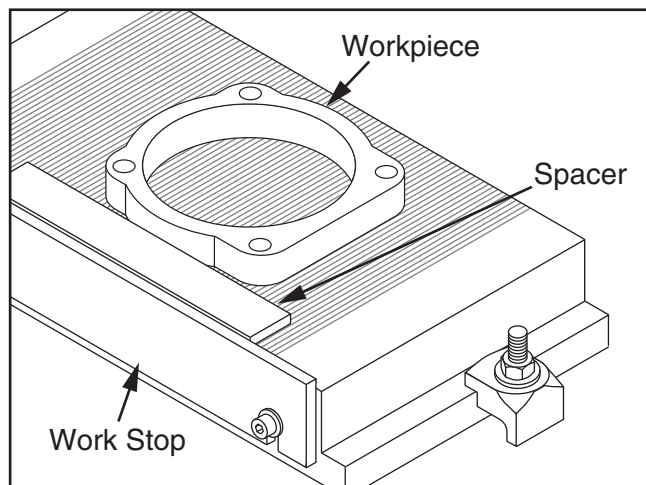

Figure 4. Positioning work stop and spacer.
3. Loosen cap screws securing work stops, lift work stop high enough so it is above surface of magnetic chuck, but below workpiece surface, as shown in **Figure 4**, then re-tighten cap screws.
4. Position workpiece so it is near center of chuck, as shown in **Figure 4**.